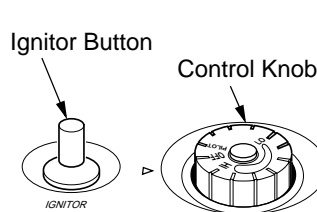

Figure 22 - Control Knob In The OFF Position
3. Turn control knob clockwise  to the OFF position (see Figure 22).
4. Wait five (5) minutes to clear out any gas. Then smell for gas, including near the floor. If you smell gas, **STOP!** Follow "B" in the safety information, column 1. If you don't smell gas, go to the next step.
5. Turn control knob counterclockwise  to the PILOT position. Press in control knob for five (5) seconds (see Figure 22).